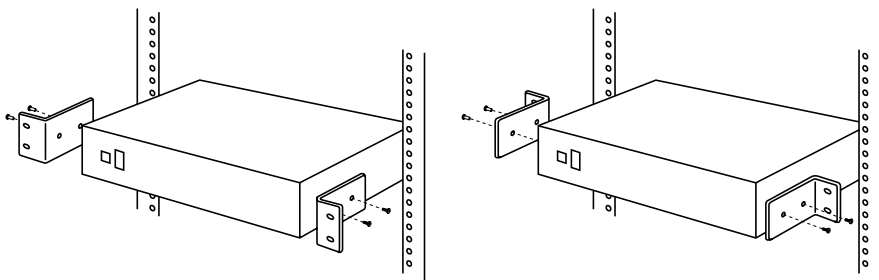

Figure B-1. Rackmount assembly, standard (left) or shallow (right).
1. Refer to Figure B-1 below to determine how you want to mount the Switch. If your rack is deep enough, we recommend the normal installation shown on the left, which allows the front of the Switch to be flush with the front of the rack. If your rack is too shallow for that, however, you can reverse the brackets and install the Switch so that it protrudes from the front of the rack, as shown on the right.